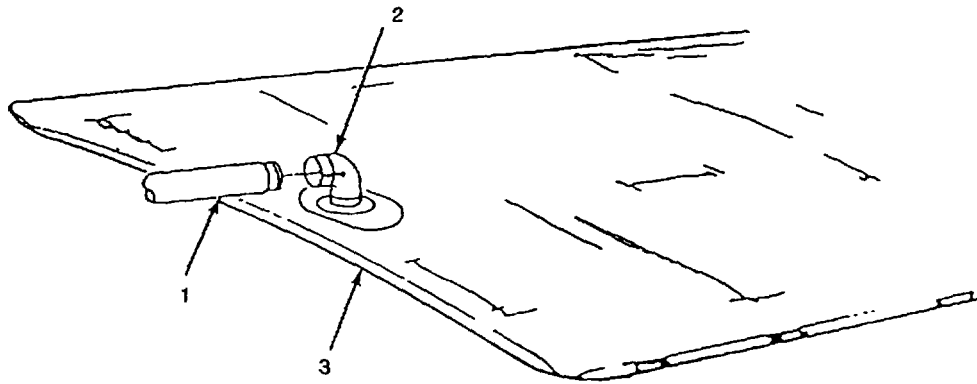

Figure 2-44. Discharge Hose and Storage Tank
- (3) Remove 6-inch boltless coupling (3) (para. 2-8.c.) connecting reducing tee (7) to downline hoseline (4).
- (4) Remove 6-inch boltless coupling (5) (para. 2-8.c.) connecting coupling pipe fitting (6) to reducing tee (7).
- (5) Remove reducing tee (7).
- (6) Push cam arms on female coupling half (8) forward to open. Remove male coupling half (9) (with attached coupling pipe fitting) (6) from female flanged quick is connect coupling half (8).
- (7) Unscrew male coupling half (9) and remove from coupling pipe fitting (6).
- (8) Push cam arms on hose (10) forward to open. Remove flange adapter (11) from end of discharge hose (10).
- (9) Remove 8 nuts (12), lockwashers (13), flat washers (14 and 15), and bolts (16). Remove female flanged quick-disconnect coupling half (8) from gate valve (24).
- (10) Carefully remove gasket (17).
- (11) Remove 8 nuts (18), lockwashers (19), flat washers (20 and 21), and bolts (22). Remove flange adapter (11) from gate valve (24).
- (12) Carefully remove gasket (23).
- (13) Push cam arms forward to open. Remove first discharge hose (1, Figure 2-44) from female-to-female filler/discharge elbow (2) of storage tank (3).